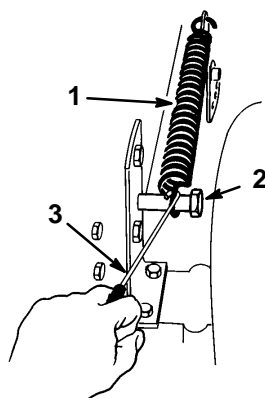

Figure 36
4. Remove the height-of-cut lift assist spring from the retaining bolt (Fig. 36), using the spring tool provided with the machine. The spring is between the frame and the right rear wheel.